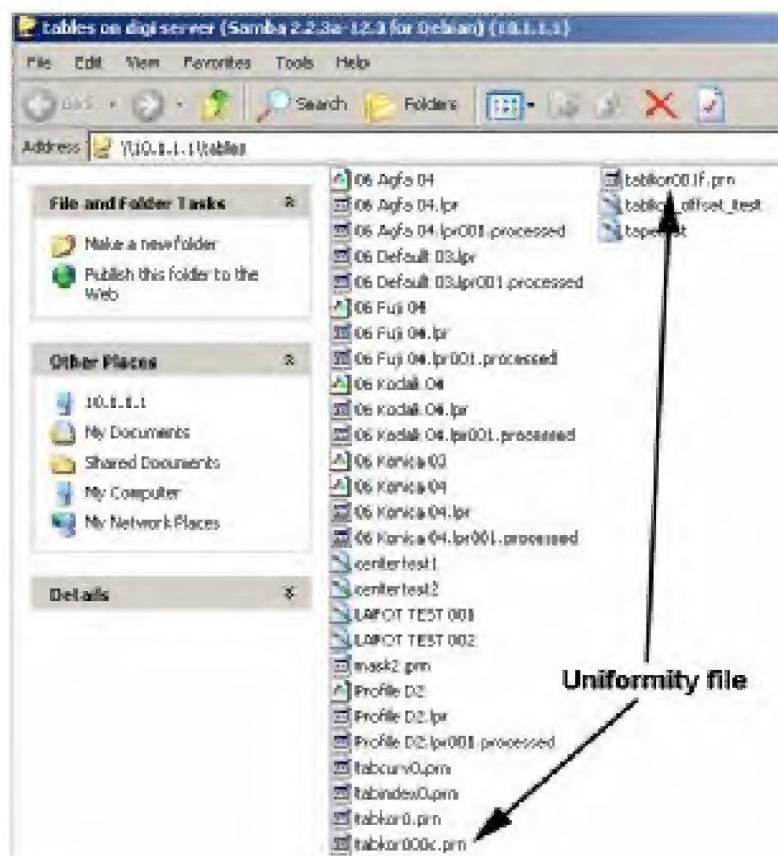

Fig 2.7.13
- While printing, the computer will select the proper lens depend on the format automatically, and in **lregedit** it will go to **etc/lens/00x/tabkor** to see which Mask file shall be used for this lens, and then go to **\10.1.1.1\tables** to read the corresponding file for printing (Fig 2.7.13).